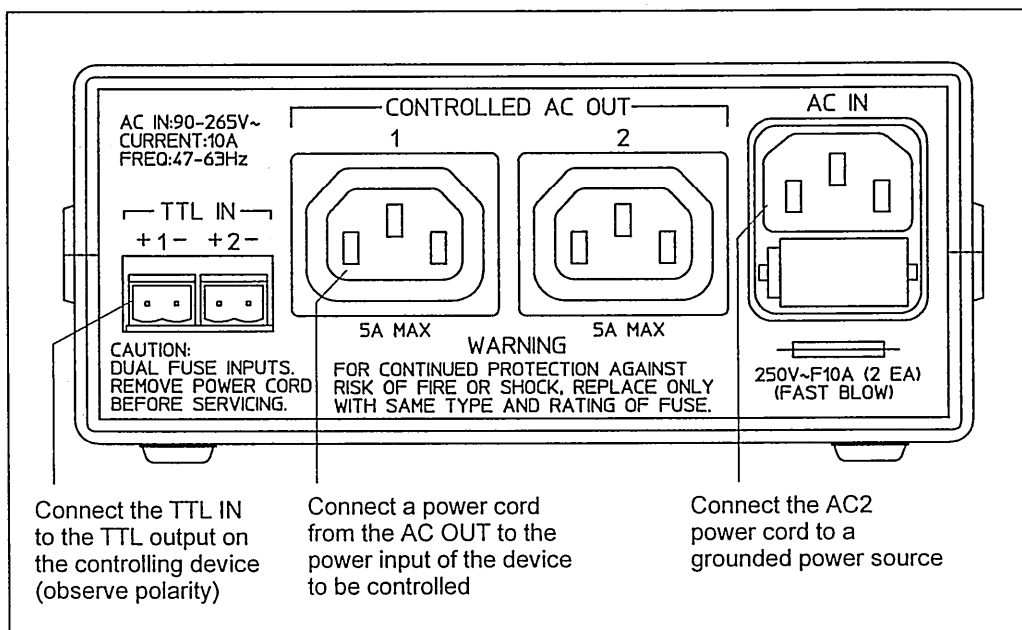

Figure 1. AC2 Rear Panel Connections
2. Connect the AC2 power cord to the AC IN socket on the rear panel (see Figure 1). Connect the other end to an AC grounded power source.